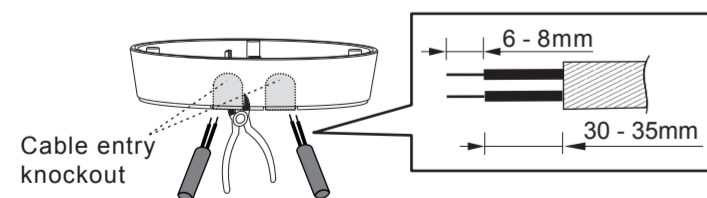

FIG.15
3.4.3.2 To feed AC power cables through the side of junction box, please use the cutting pliers to break the cable entry knockouts on the side of junction box, then insert cables into junction box and feed through it. Strip off 6 - 8mm of cable sheathing for wiring (See FIG.15).